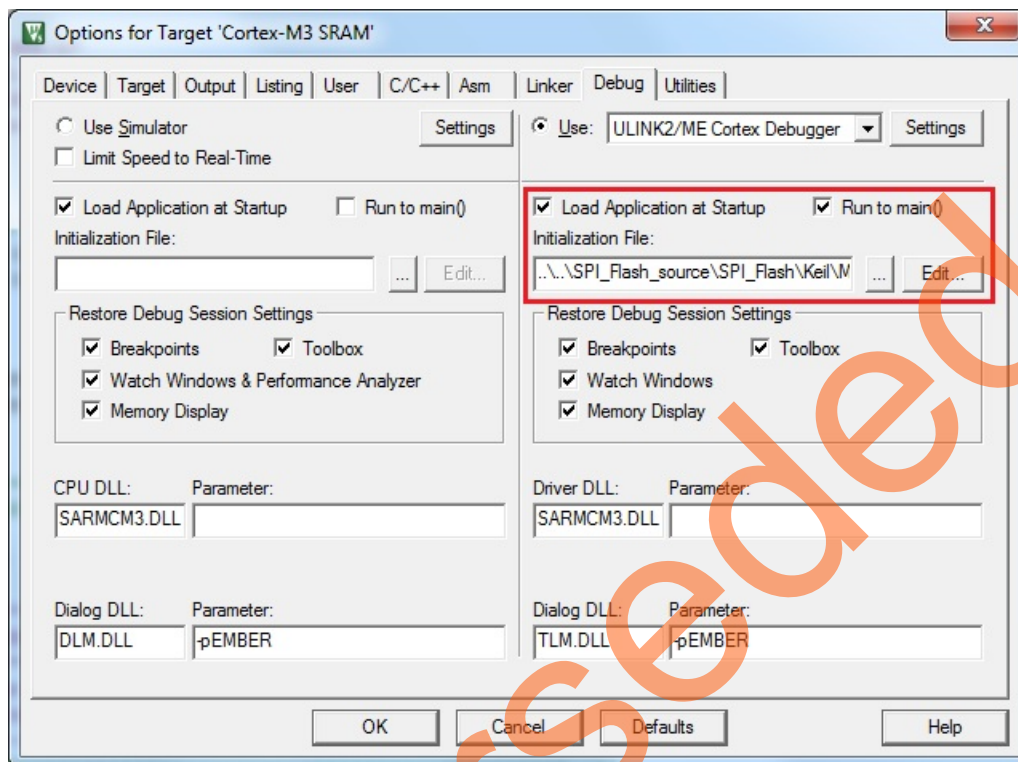

Figure 31 • Target Options - Initialization File
12. Click the **Debug** tab and browse the //SF2_SPI_Flash_Keil_Tutorial_DF/SourceFiles/ folder for initialization file provided as shown in Figure 31.